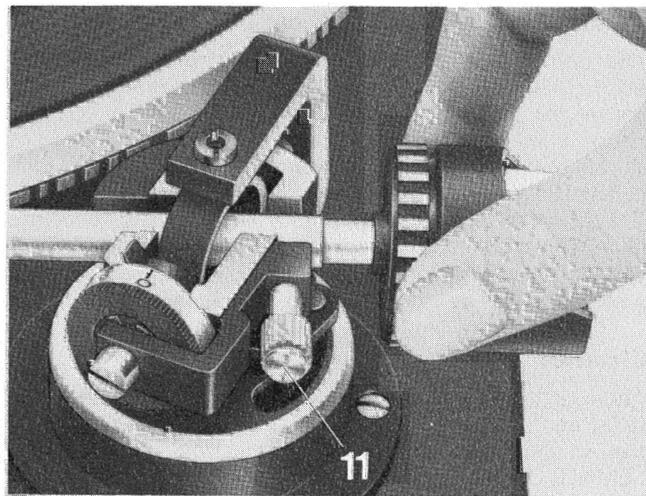

Fig. 6
3. If the tonearm does not come to rest horizontally, loosen setscrew (11) and slide the counterbalance and shaft in or out until an approximate balance is achieved. Then tighten the setscrew (Fig. 6).